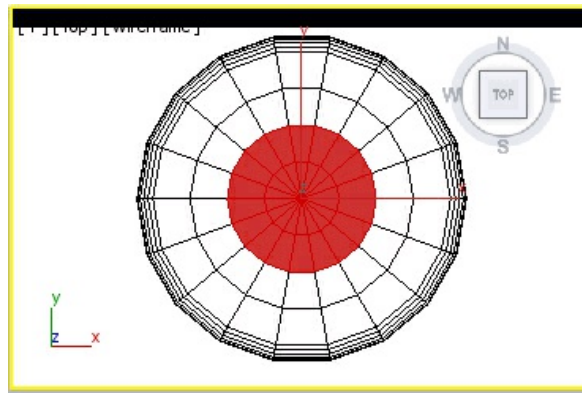

Figure 8-144 The inner polygons of support selected
11. Press and hold the CTRL key and select the inner polygons of *support* in the Top viewport, as shown in Figure 8-144.